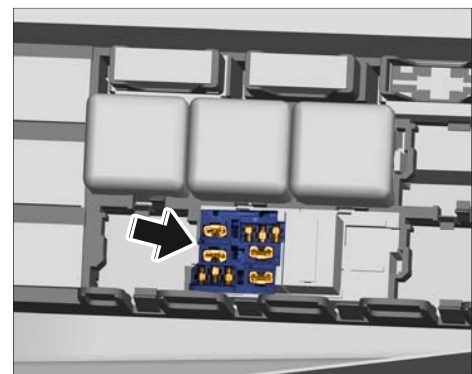

Figure 4
**If** a flat plug is bent, check the **plug sockets** in the relay carrier ⇒ Figure 4 -arrow- for **deformation** and bend them into shape again using a suitable tool if necessary.